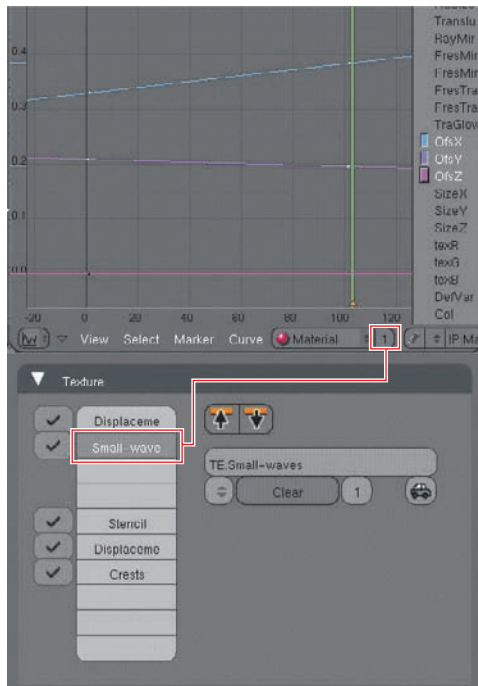

Figure 1.48 Keying the offset for channel 1
10. Key the movement for the small waves as shown in Figure 1.48. Note that this is a Material Ipo and that the index of the Ipo to the right of the drop-down must match the channel of the texture, counting from top to bottom and beginning at 0. The second channel down, therefore, is channel 1. This wraps up the water itself. If you like, render out a few seconds of animation to see how the movement looks. You might want to do this without oversampling by deselecting the OSA button and at a small size, such as 25 percent, to make it quicker.